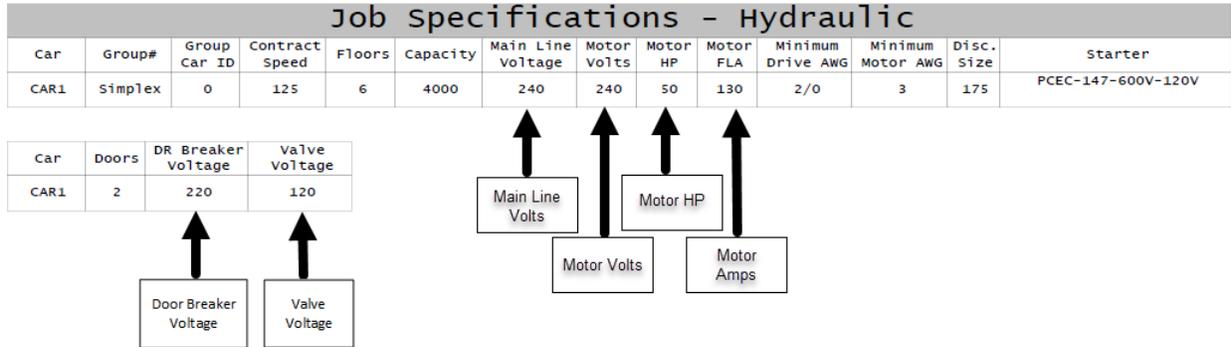

Figure 2: Example of Parameter Table
- Figure 2: Example of Parameter Table 2